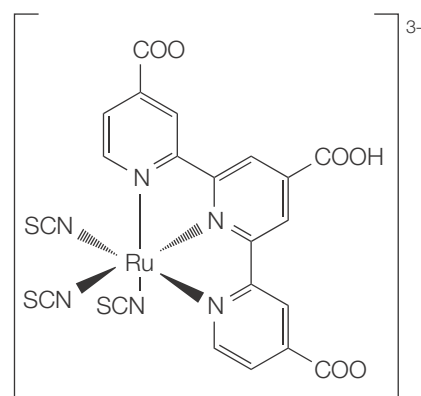

Figure 24.60 Ruthenium-based organic dye (Black Dye)
An example of a dye used in a Grätzel DSSC is shown in Figure 24.60. It can be seen that it has a series of delocalized pyridine ring systems. The nitrogen atoms of the pyridine rings and thiocyanate ions, $[\text{SCN}]^-$ act as ligands (electron pair donors). The ring system is complexed with a central ruthenium(II) ion. This dye is able to absorb photons over a wide range of frequencies in the visible region, all the way down to the red end of the spectrum.